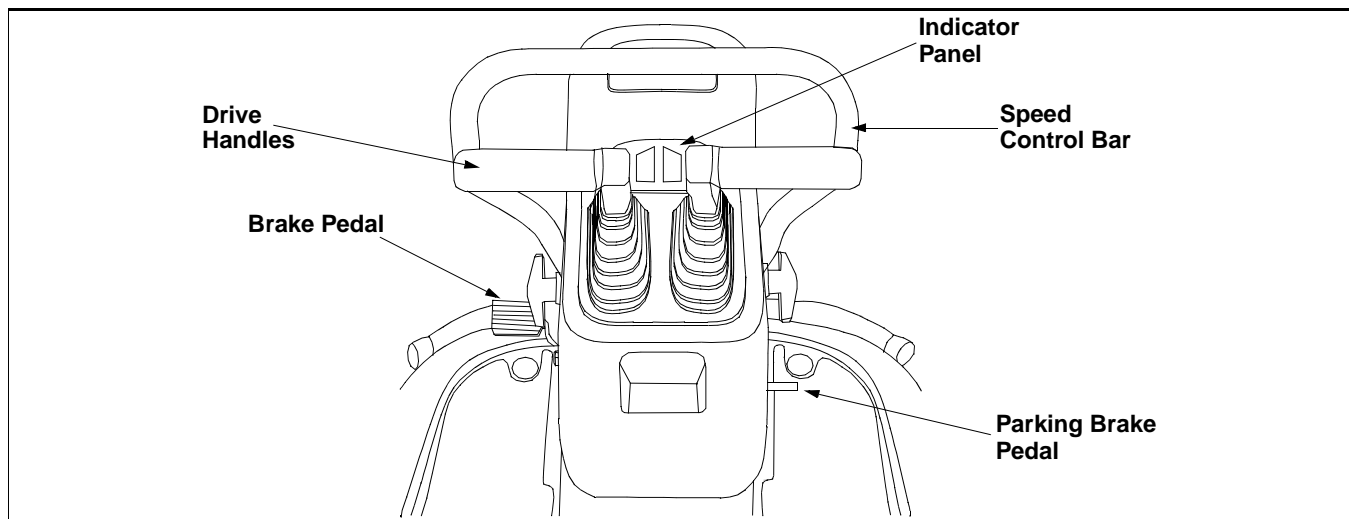

Figure 8
The brake pedal is located on the lower left side of the control tower. (See Figure 8) It is used to engage the brake in order to slow down or stop the unit. It is also used to engage the parking brake.
The parking brake pedal is located on the lower right side of the control tower. (See Figure 8) It is used to engage the parking brake. Engage the parking brake when the unit is not in use.
1. Push down on the brake pedal and hold. (See Figure 8)
The drive handles (left and right) are located at the top of the control tower. (See Figure 8) The drive handles are used to move, steer, and stop the Z-series. The drive handles will return toward the neutral position when released; however, the driver should place the drive handles in the neutral position so the unit will not move. If the drive handles are not placed in the neutral position, the Z-Series may creep.
4. Push down on the parking brake pedal to lock engagement. (See Figure 8)